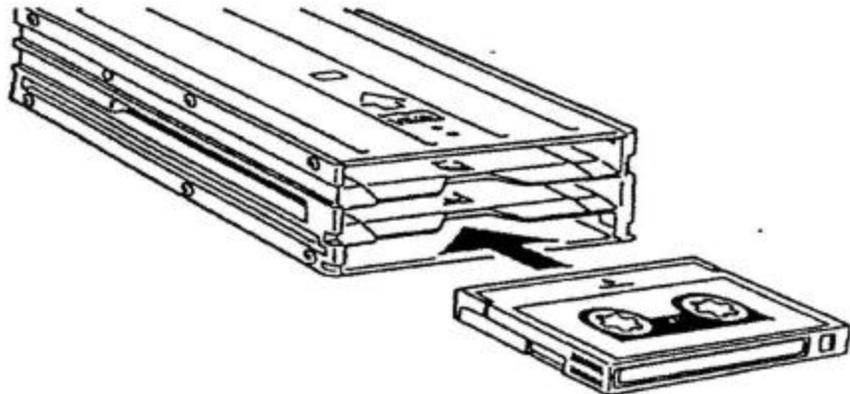

Figure 3-6. Inserting cartridges into the bottom magazine shelf
1. First, insert data cartridges into the bottom shelf of the magazine, see Figure 3-6. Insert cartridge No. 3 first, followed by cartridge No. 2 and No. 1 (in that order).